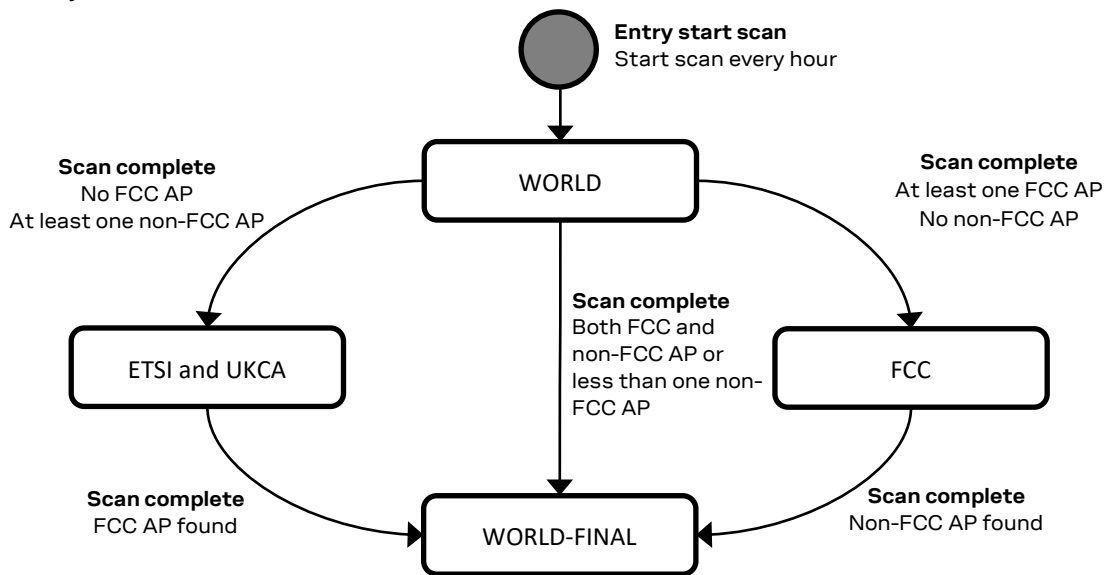

Figure 2: NORA-W2 series IEEE 802.11d state transition diagram
- **WORLD:** In this domain, NORA-W2 modules operate on all channels supported both by FCC, ETSI, UKCA, and most other countries in the world. This is the initial regulatory domain. If subsequent scans contain country information for both FCC and non-FCC countries, the regulatory domain is always set to WORLD. In Figure 2 this state is shown as WORLD-FINAL. This state is not exited until the device is reset.
The state transition diagram shown in Figure 2 describes the algorithm for selecting the current regulatory domain.